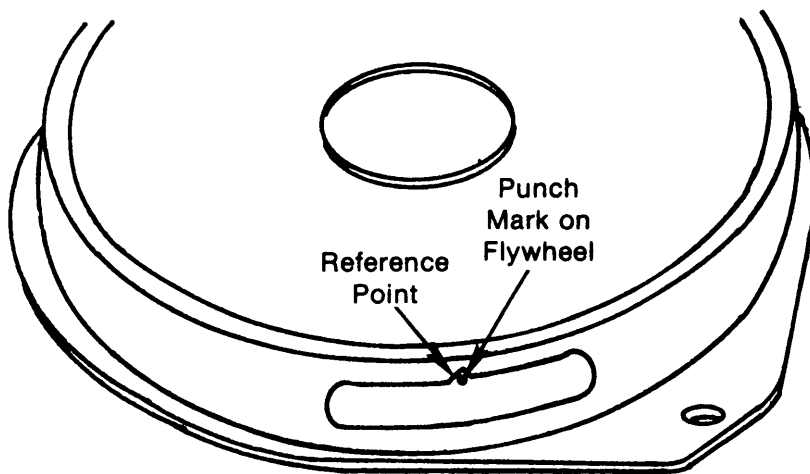

Figure 1. New Punch Mark on Flywheel
Merc 1750's, which have been retimed to 15" BTDC, can be identified by the punch mark on the flywheel. When timing, use the punch mark on the flywheel and the notch in the flywheel cover. (Figure 1)
4. With a center punch, and using the existing timing reference mark on the flywheel cover as a guide, make a new punch mark on the flywheel in the center of the timing mark, as shown in Figure 1.
6. Advance the spark lever to the full advance position and crank the engine with the starter motor. Using a timing light to check the timing, adjust the spark advance stop screw until the new punch mark on the flywheel (Figure 1) coincides with the timing reference point on the flywheel cover.